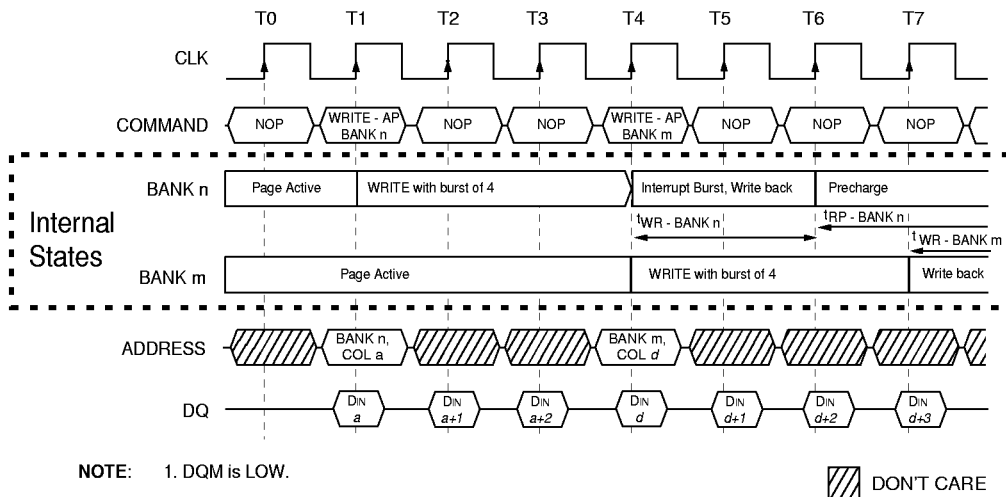

Figure 27
4. Interrupted by a WRITE (with or without AUTO PRECHARGE): A WRITE to bank m will interrupt a WRITE on bank n when registered. The PRECHARGE to bank n will begin after t_{WR} is met, where t_{WR} begins when the WRITE to bank m is registered. The last valid data WRITE to bank n will be data registered one clock prior to a WRITE to bank 1 (Figure 27).